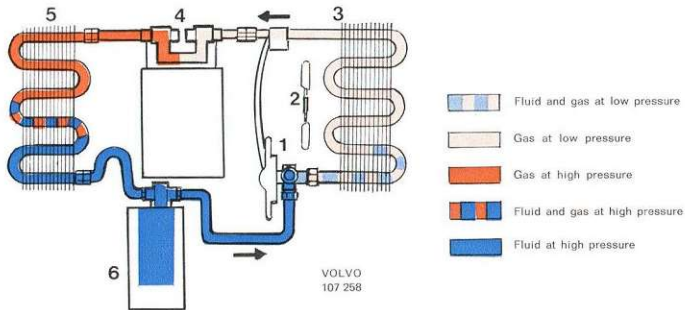

Fig. 8-47. Refrigerant circulation in air conditioning system
In order to explain the cooling process that takes place, it is suitable to start off with the thermostatic expansion valve, usually called the TEV (1, Fig. 8-47). Before the TEV, the refrigerant is in liquid form and at high pressure. When it flows into the inlet pipe of the evaporator, where there is lower pressure (created by the suction effect of the compressor), the temperature of the refrigerant immediately drops and there it is converted to partly vapour, partly fluid. Since the boiling point of the refrigerant is at  $-32^{\circ}\text{C}$  ( $-26^{\circ}\text{F}$ ) at normal air pressure, it starts to boil and changes to vapour in the evaporator coil (3), while it absorbs heat from the warm air which the fan motor (2) blows round the pipeline. Due to the fact that heat is absorbed from the air, it becomes colder. It is this cold air which is blown out through the air ducts into the compartment. In the evaporator coil, the latent heat has caused the refrigerant to convert to a gaseous form, without any change in temperature. Before the refrigerant reaches the end of the coil, it absorbs, however, more heat and the gas temperature rises. This heat is called superheat, and it is that which regulates the function of the TEV, which will be described later on.